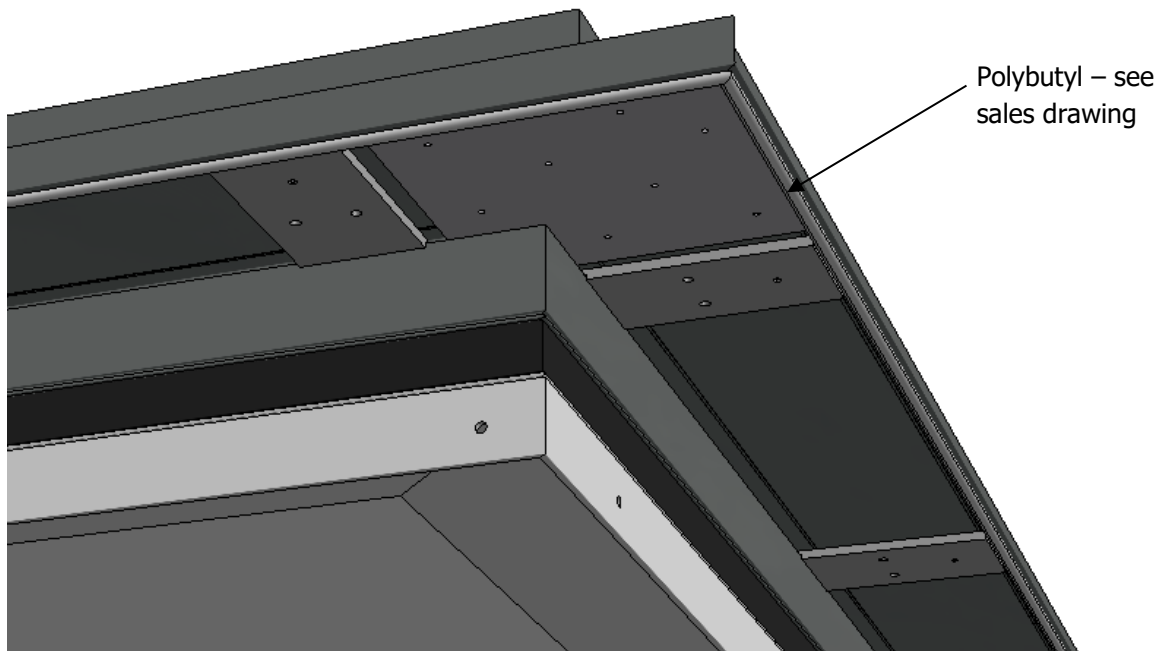

Fig. 4a – Continuous polybutyl loop on the underside of the product
- Apply a continuous loop of 8mm diameter polybutyl (supplied) to the underside of the product (fig. 4a)